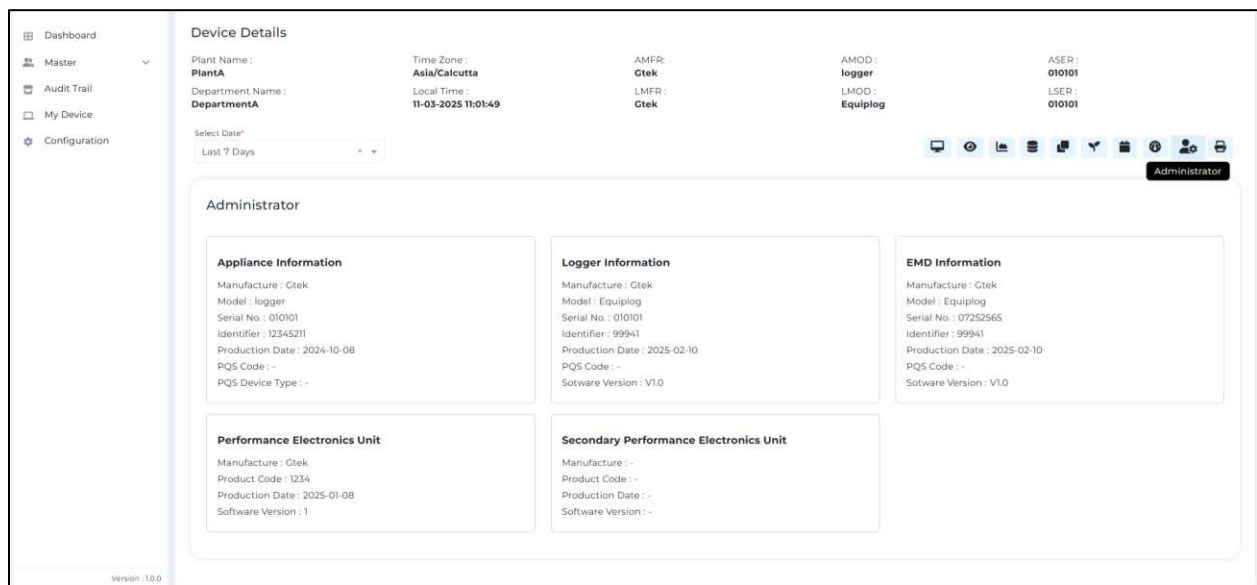

Figure 56 Administrator Data Dashboard for selected device
- The Administrator Data Dashboard displays Appliance, Logger, EMD and compressor unit admin information for the device as shown in figure 56.